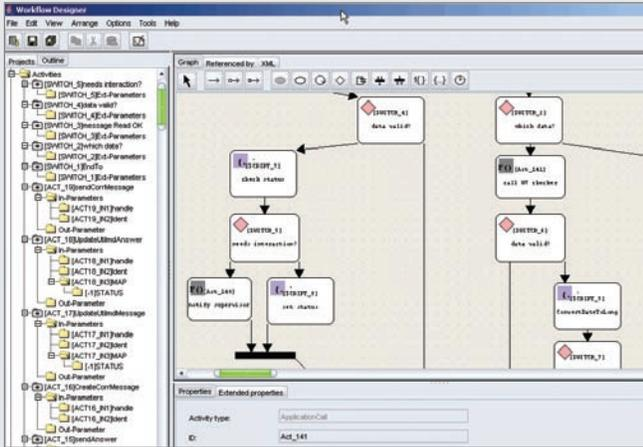

Fig. 2: Workflow Designer
- Easy modeling of your business processes using a graphical editor (see Fig. 2)